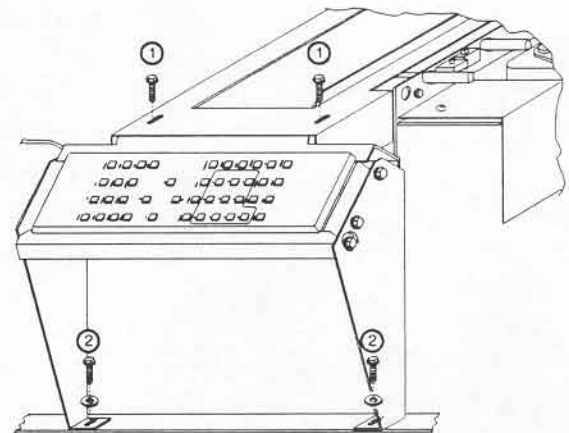

Figure 5-21. Keypad Brackets Removal
- c) See Figure 5-21. Remove the top 2 hex head screws which secure the keypad holder to the top bracket.